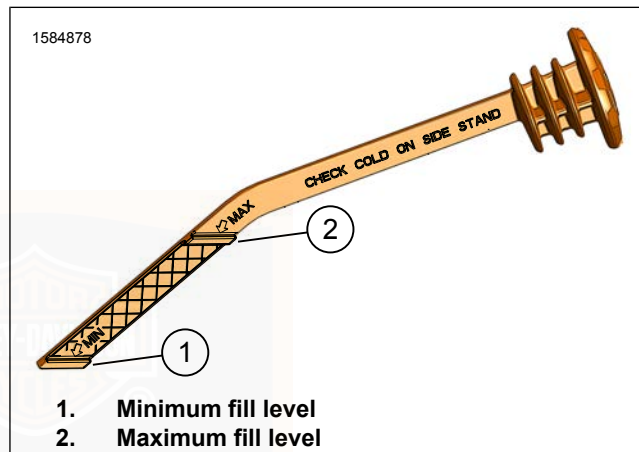

Figure 70. Coolant Filler Cap/Dipstick
4. See Figure 70. Check that coolant level is at the "MAX" line (2).